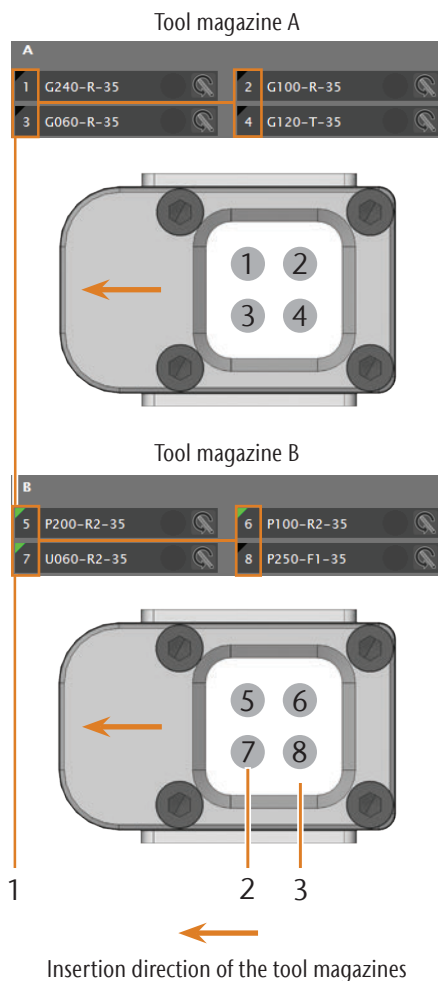

FIG. 16: COMPARISON OF THE CNC SOFTWARE AND TOOL MAGAZINES
- The positions of the tools in the blocks must match the tool positions in DentalCNC ( Fig. 16).